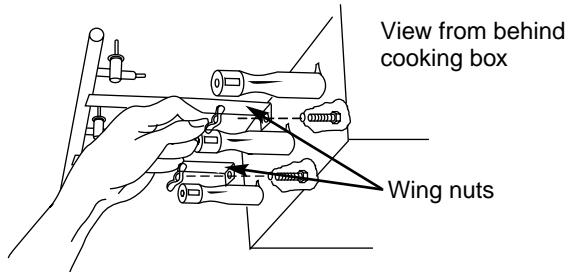

Figure 12
e) Remove the manifold bracket and unscrew the two wing nuts that hold the manifold to the cooking box. Pull the manifold and valve assembly out of the burners and carefully set it down. Figure 12.